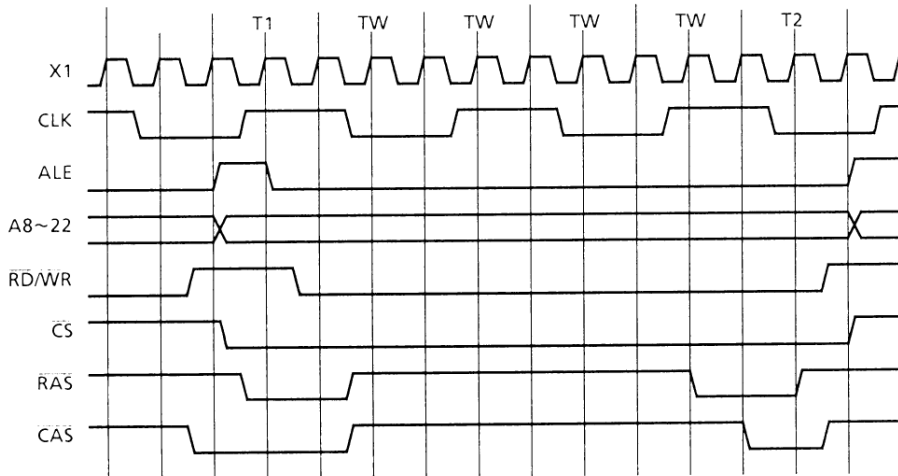

Figure 3.12 (13). Timing Chart for When a Memory Access Cycle Enters During a Refresh Cycle
priority to the cycle that enters first. When the refresh cycle is given priority, a wait automatically inserted in the memory access cycle. Figure 3.12 (13) shows the timing in such cases.